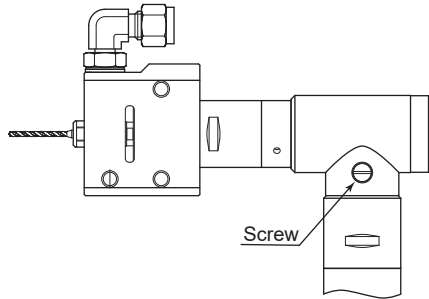

Fig. 27
- (1) Turn OFF the power switch of the CONTROLLER and stop the air supply.
- (2) Remove the Grease Inlet Screw on the Brushless Motor Spindle with a screw driver (Fig. 27)